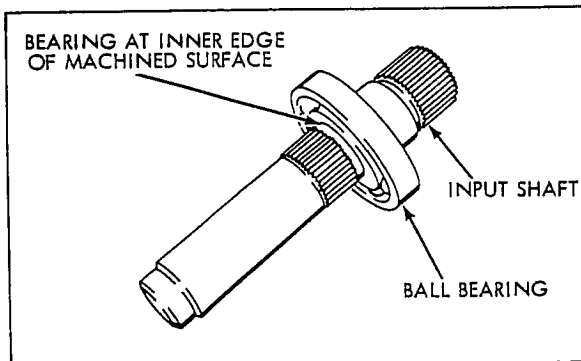

Figure 9-9 Input Shaft Removal
2. If the unit is built with the bevel gear on the input shaft toward the cover, (Figure 9-9) remove the snap ring on the input shaft from the groove.